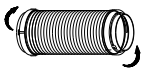
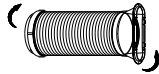

Fig. 16a
Fig. 16b
1. Install the adaptor B and adaptor I onto the exhaust hose as shown in Fig.16a or Fig.16b. Refer to the previous pages for window kit installation.